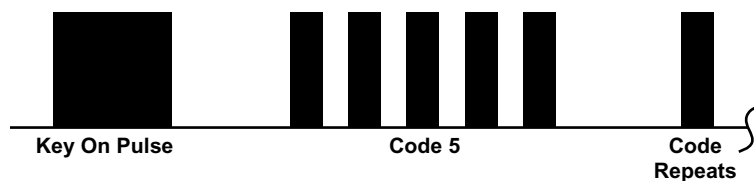

Figure 8-19 Honda engine Code Type 02
- Type 02, see Figure 8-19 and Table 8-3 on page 74